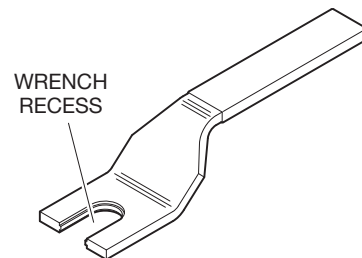

FIGURE 7
Step 3. Tighten the sprinkler into the sprinkler fitting using only the W-Type 9 Sprinkler Wrench, see Figure 7. For wax coated sprinklers, use an 8 or 10